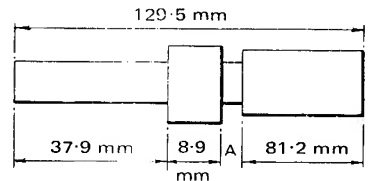

Fig. 1.27
- Find the dimension A shown in Fig. 1.27.